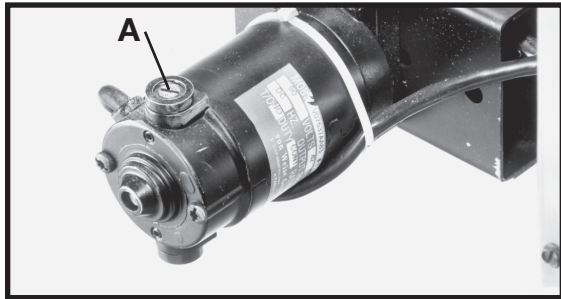
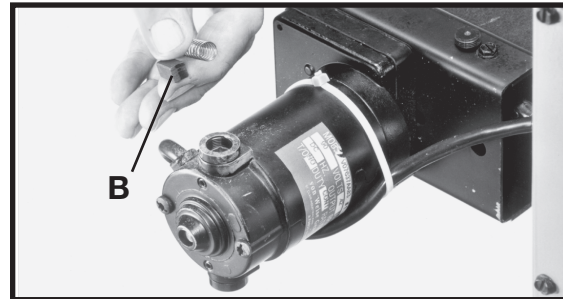

Fig. 42
Fig. 43
The brush holders (A) Fig. 42, are located on the DC motor housing opposite each other. Fig. 43, illustrates one of the brushes removed for inspection. When the carbon on either brush (B) Fig. 43 is worn to 3/16" or less, or if the spring is burned or damaged, replace both brushes. If the brushes are found serviceable after removal, reinstall them in the same position as removed.